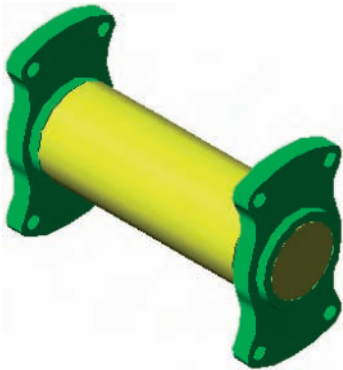
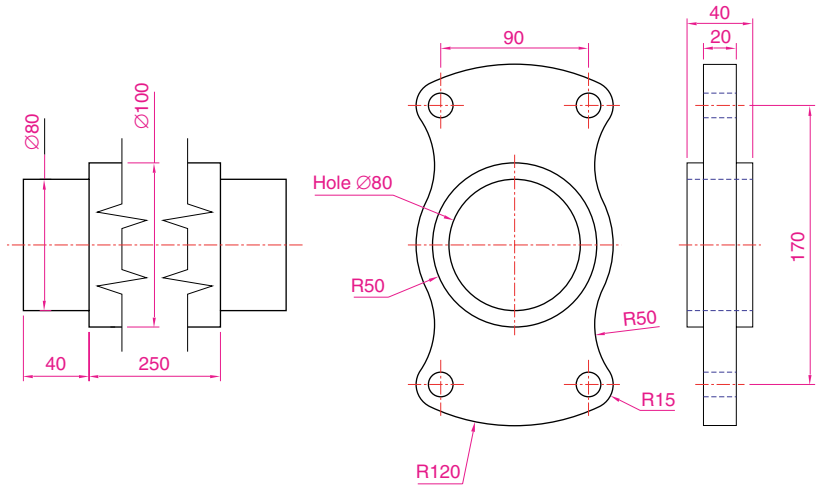

Fig. 10.23 Exercise 2 – a rendering of the holders and roller
Fig. 10.24 Exercise 2 – details of the parts of the roller and holders
2. Fig. 10.23 is a rendering of a roller between two end holders. Fig. 10.24 gives details of the end holders and the roller in orthographic projections.